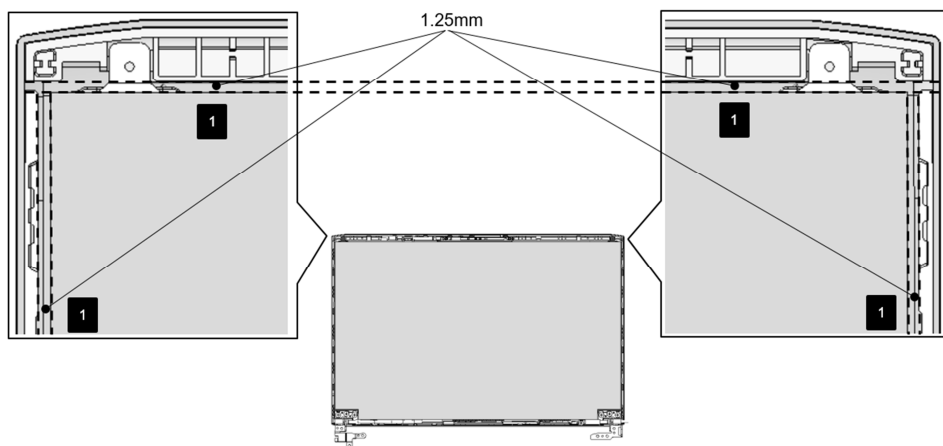

Figure 4-26 Panel assembly explanation (For P20)
6. For Panel P20 type : Rotate the panel right-side up and use 1.25mm Mylar between LCD cover and Panel to seat it in the correct position as shown in Figure 4-26.  ,1
10. For Panel P20 type : Rotate the panel right-side up and use 1.25mm Mylar between LCD cover and Panel to seat it in the correct position as shown in Figure 4-26.